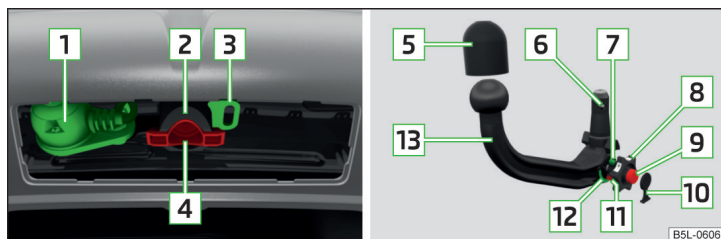

Fig. 153 Carrier for the towing device/tow bar
**Support for the towing device and tow bar** » Fig. 153
- Remove the cover for the mounting recess **4** » Fig. 153 on page 142 in a downwards direction.
- Attach the cover for the mounting recess **4** » Fig. 153 on page 142 » **!**